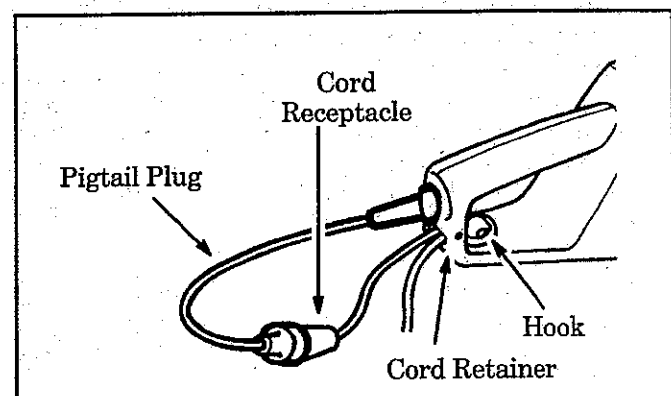

Figure 4
7. To reduce the possibility of the extension cord disconnecting from the unit during operation, attach the extension cord to the cord retainer on the unit as shown in Figure 4.
- a. Loop the cord through the cord retainer and around the hook. Figure 4.